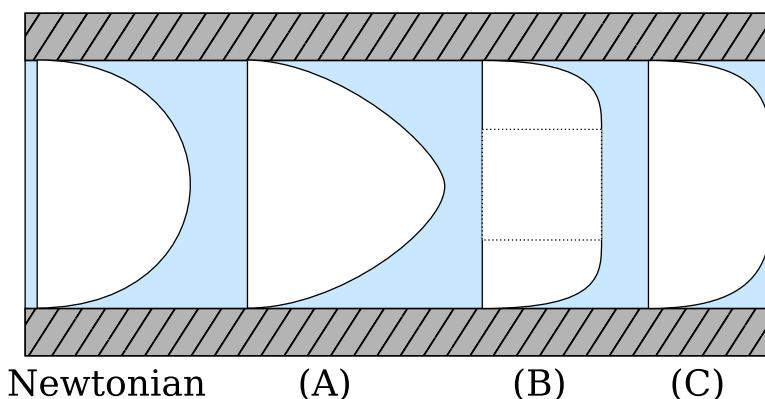

Figure 27: Non-newtonian flow profiles compared against the newtonian flow profile.
- 1) In Fig. 27, which profile corresponds to a shear thinning fluid? [2 marks]
- 2) In Fig. 27, which profile corresponds to a viscoplastic fluid? [2 marks]
- 3) Which profile in Fig. 27 corresponds to a shear thickening fluid? [2 marks]
- 4) Which profile in Fig. 27 corresponds to a Bingham-plastic fluid? [2 marks]
- 5) Which fluid types illustrated using the flow profiles in Fig. 27 cannot be fitted using a power-law model? [2 marks]